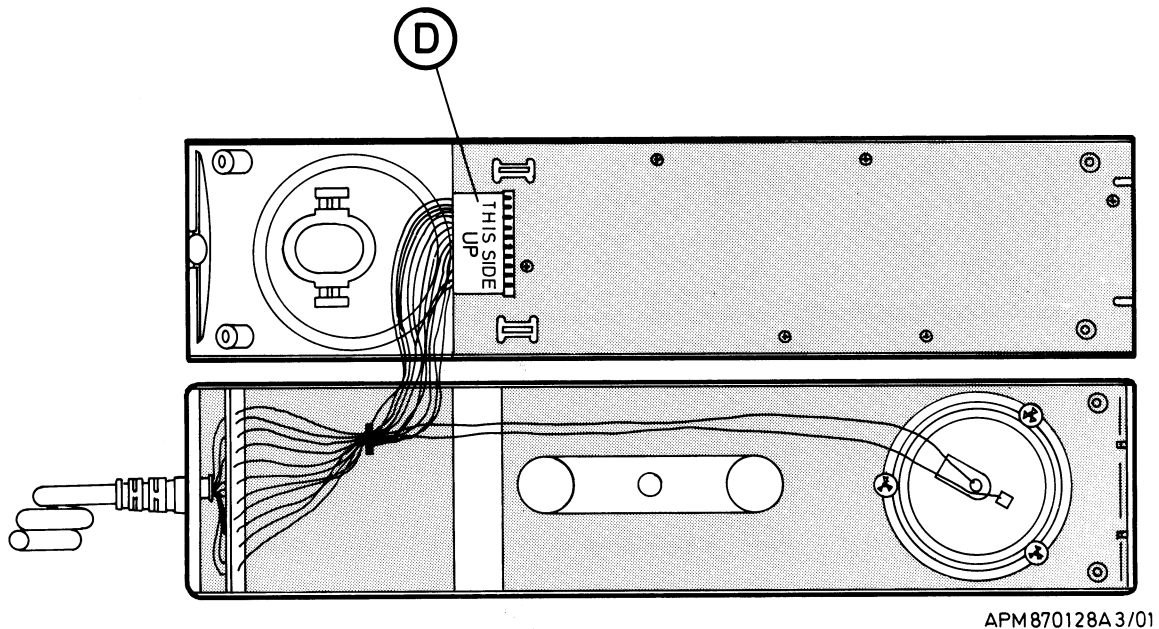

Fig. 3
2. - Remove the plug (D) . See fig. 3.